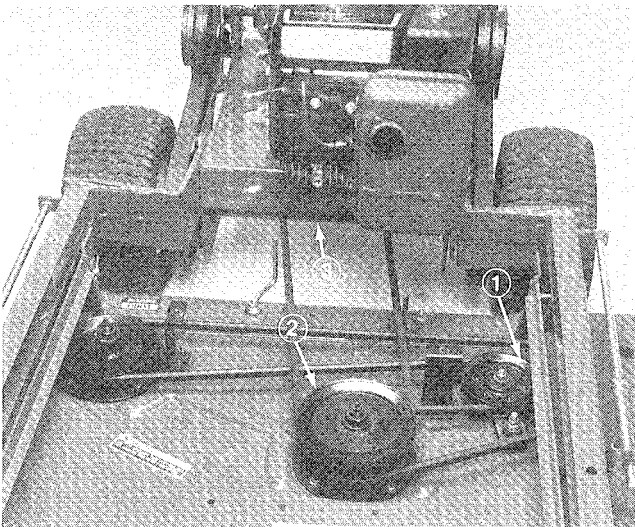

Figure 17
3. Unhook spring from idler arm to relieve deck belt tension (Fig. 17) and remove worn belt from pulleys.
4. Install new belt around spindle pulleys and idler pulley (Fig. 17).
5. Hook spring to idler arm (Fig. 17).
6. Install belt to drive and clutch pulley (Fig. 17).